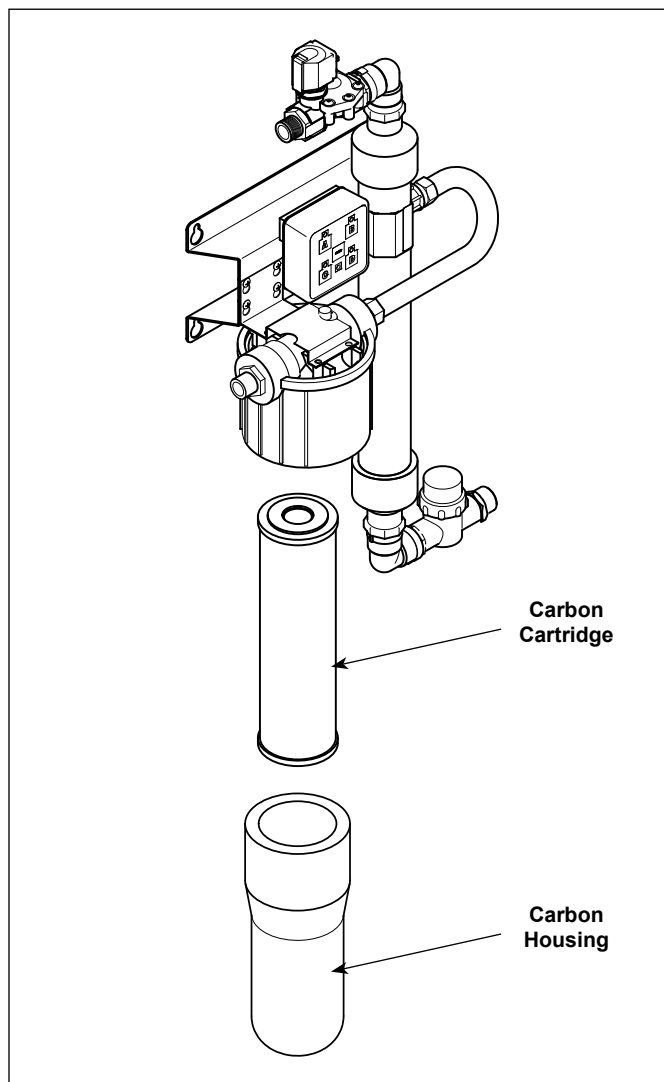

Figure 6. Replacing the Carbon Cartridge
9. Inspect the O-ring on the Carbon Element Housing (Figure 6). Replace the O-ring if it is cracked, twisted, or missing.